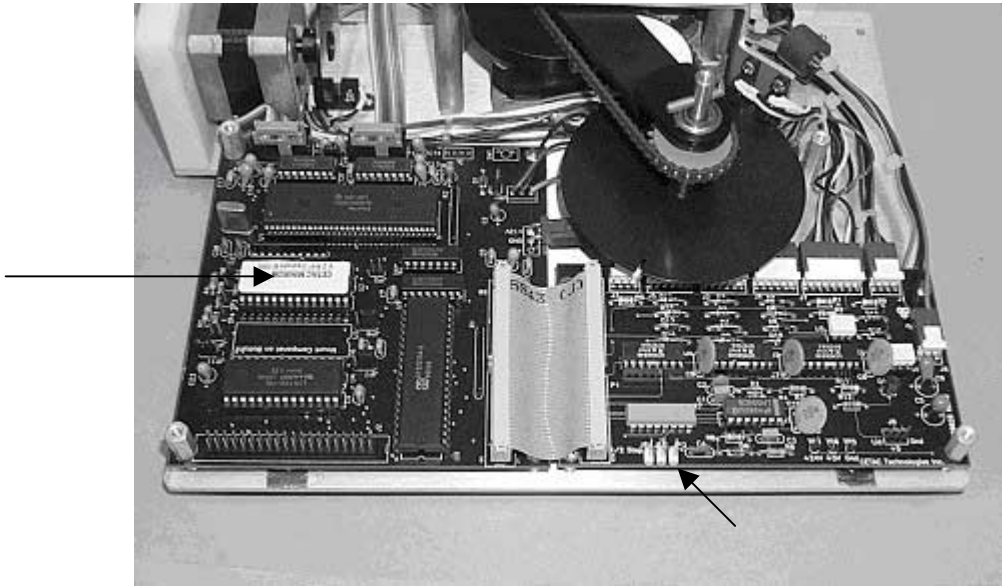

Figure 1-9. View of CPU and I/O boards.
8. Replacement of the firmware chip is now accessible. See Figure 1-9.
A jumper may need to be added or removed from **JP3**. See Figure 1-9. Please contact CETAC Technologies Customer Service and Support (800-369-2822) or an authorized representative for more information on when this needs to be done.